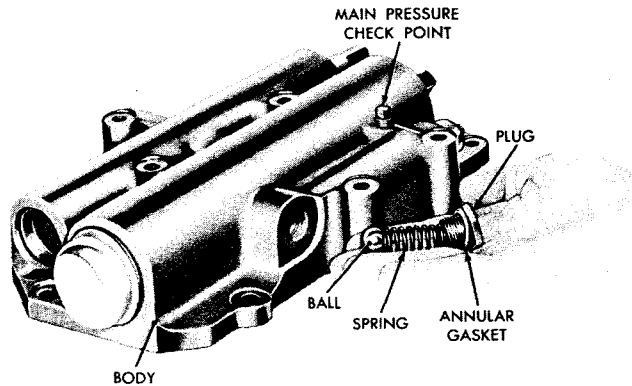

Fig XIV-5. Removing or installing plug, annular gasket, spring, and ball from range selector valve body
(2) Remove the plug, annular gasket, spring and ball from the body (fig XIV-5).
(10) Install the ball, spring, annular gasket and the plug in the body (fig XIV-5).